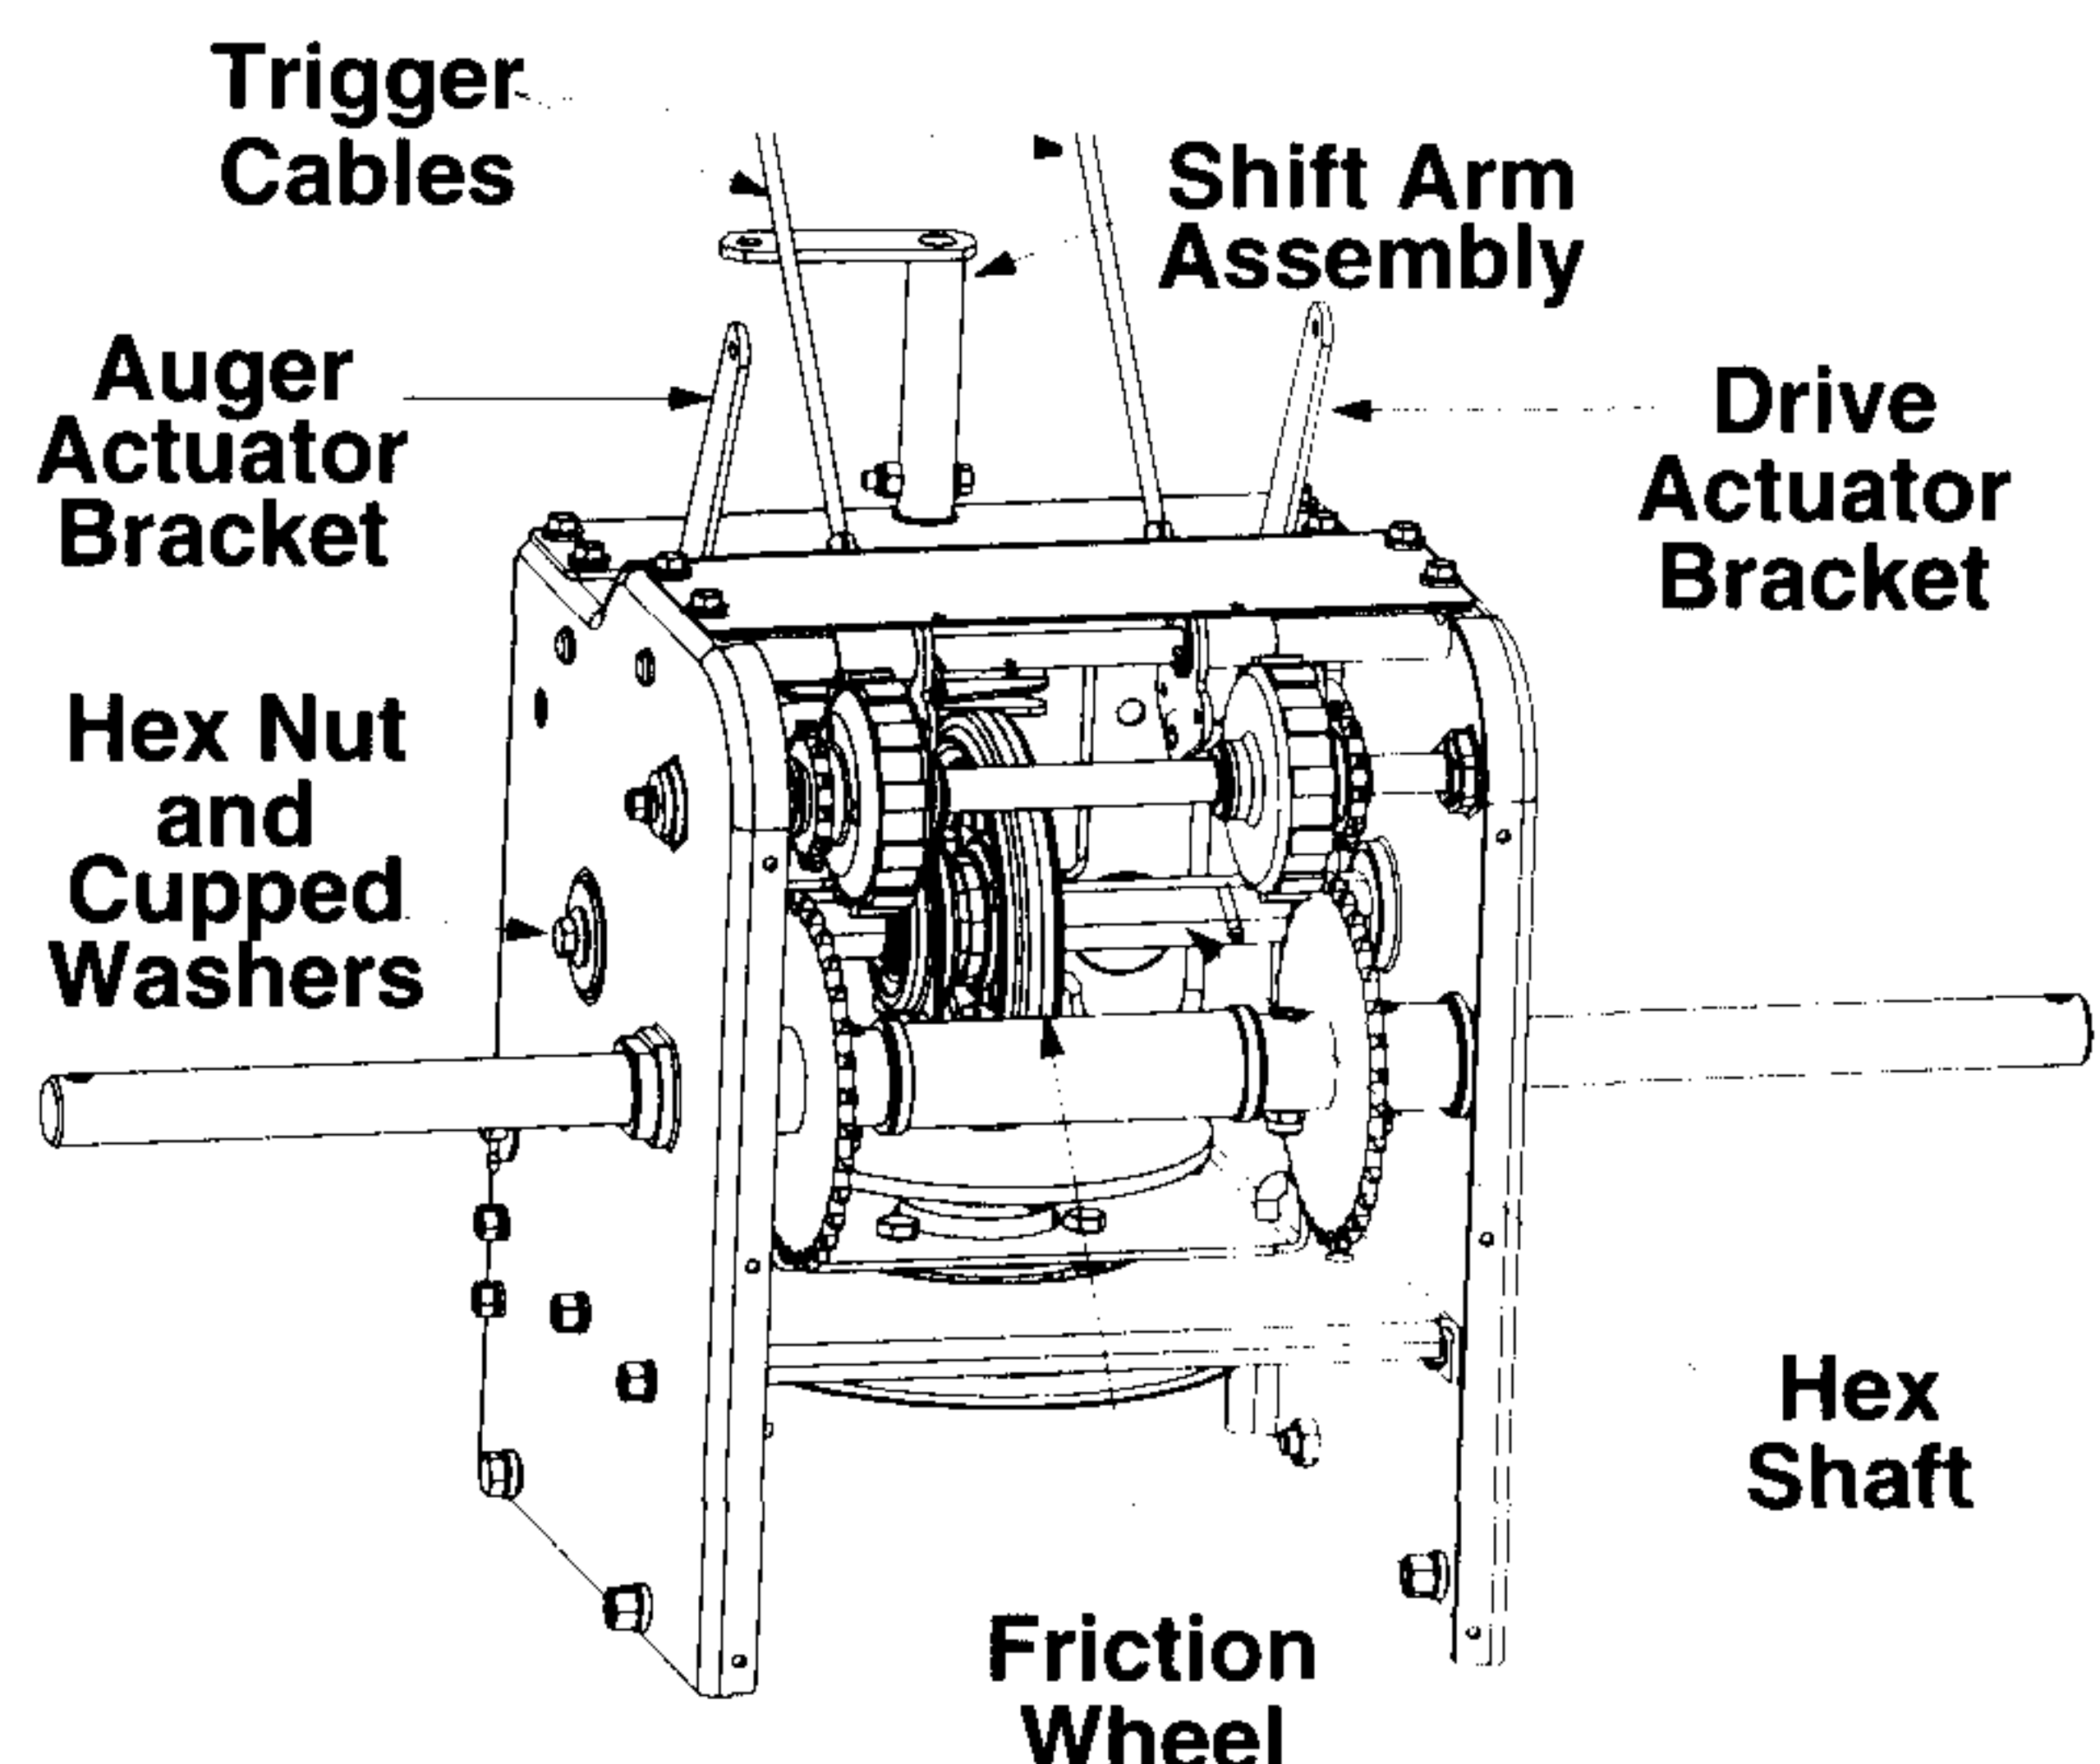

Figure 15 Viewed from the underside of snow thrower
Oil or spray lubricant into bearings at wheels at least once a season. Remove wheels, clean and coat axles with a multi-purpose automotive grease. See Figure 15.
Remove auger bolts on auger shaft, see Figure 15. Oil or spray lubricant inside shaft.
Lubricate the hex shaft with a good all-weather multi-purpose light grease at least once a season or after every 25 hours of operation (available from an authorized service dealer or an automotive store.) See Figure 15.
5. Using a 7/8" wrench hold the hex shaft and remove the hex nut and cupped washer and bearing from left side of the frame. See Figure 15. Hold the friction wheel assembly, and slide the hex shaft out of the unit toward the right hand side.